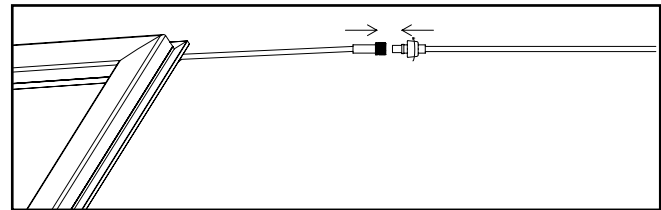

Figure 4.
5. Connect low voltage power supply wire to light fixture using threaded connector. See Figure 4.